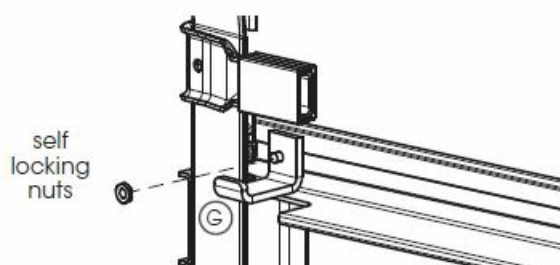

Fig: 2.5.4
- Fit bottom rail stops G using self locking nuts provided. Allow the door to rise and rest against the head stop (Fig 2.5.4)